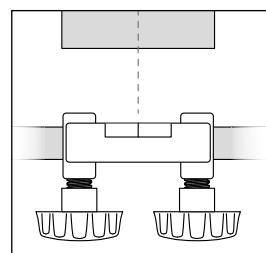

Fig 3
3. Secure the support arm mount (D) to the support arm in a vertical position and with it aligned centrally to the cutting face of the sharpening wheel. See **Fig 3**.